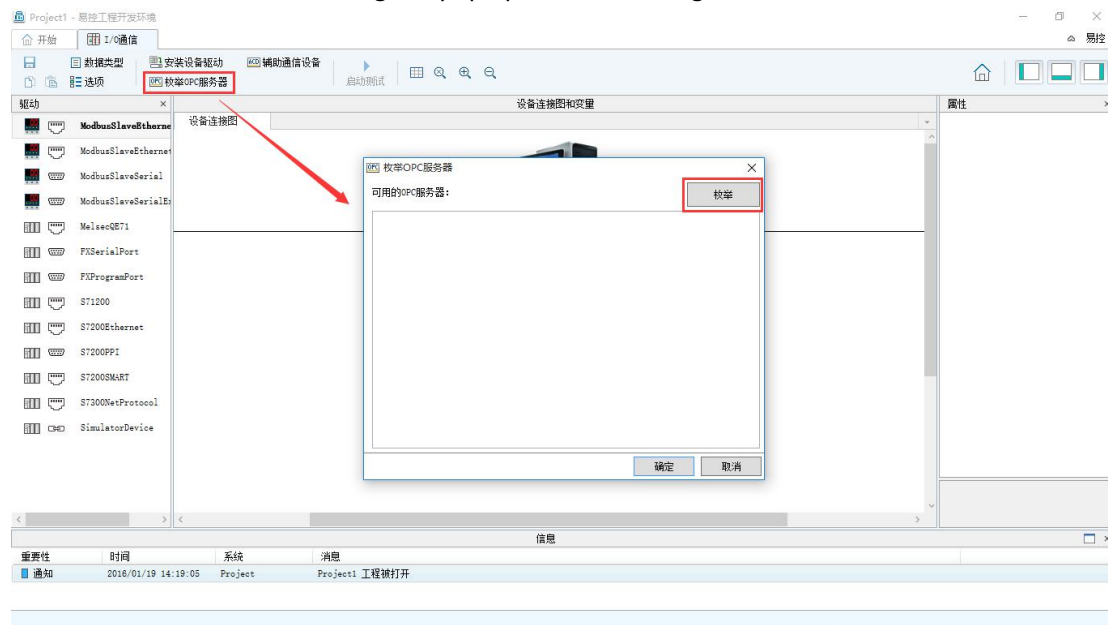

Fig. 4.10-4 "Enumeration OPC server" dialog
(1) Open "INSEPEC" configuration software.
(2) After click the "Enumeration OPC server" in the "I/O communication" page, the "Enumeration OPC server" dialog will pop up, as shown in Fig. 4.10-4.